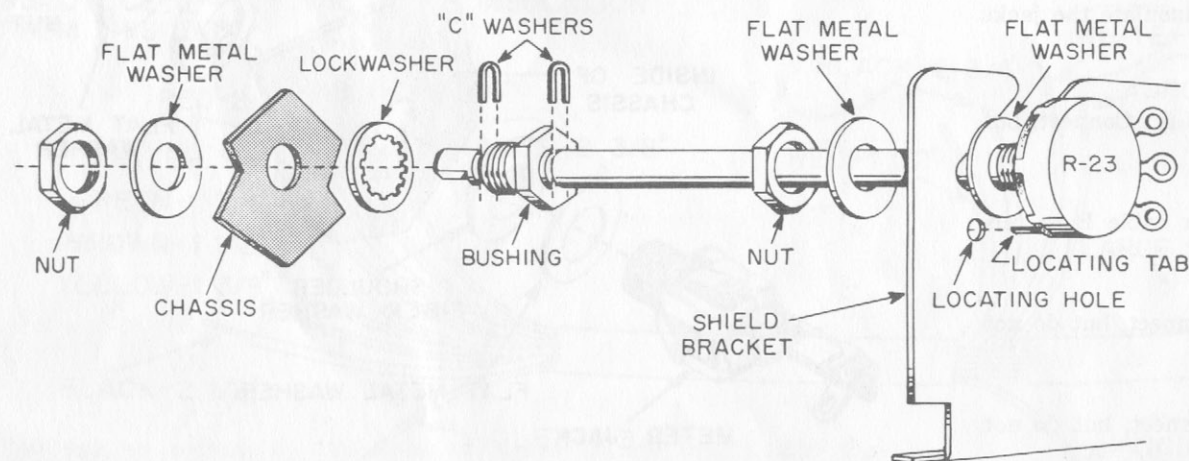

FIGURE 23. MOUNTING DETAIL FOR CONTROL WITH LONG SHAFT
SEE FIGURE 23.
- ☑ Mount R-16, the 100 Ω V-3 V-4 BALANCE Control, in the same manner R-23 was mounted. See Figure 23.